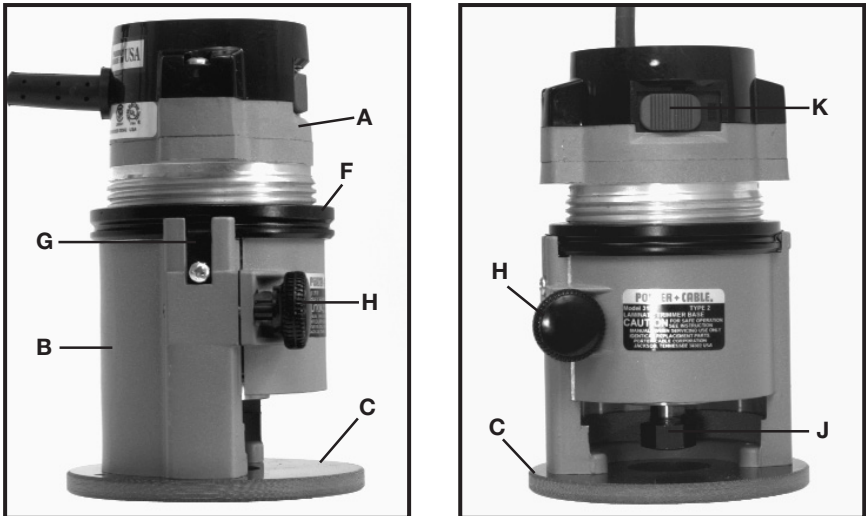

Fig. 1
- a. Loosen clamping knob (H) Fig. 1.
- b. Grasp power unit (A) Fig. 1, and pull straight up and out of the base unit (B) Fig. 1. This will also release the depth adjusting ring (F) Fig. 1, from ring springs (G) Fig. 1.
5. Place one wrench on flats of shaft directly above collet nut (J) Fig. 1. Let far end of wrench rest on bench to your RIGHT.
6. Place other wrench on collet nut (J) Fig. 1, and turn clockwise to tighten. **TIGHTEN SECURELY.**
2. Place one wrench on flats of shaft directly above collet nut (J) Fig. 1. Let far end of wrench rest on bench to your LEFT.